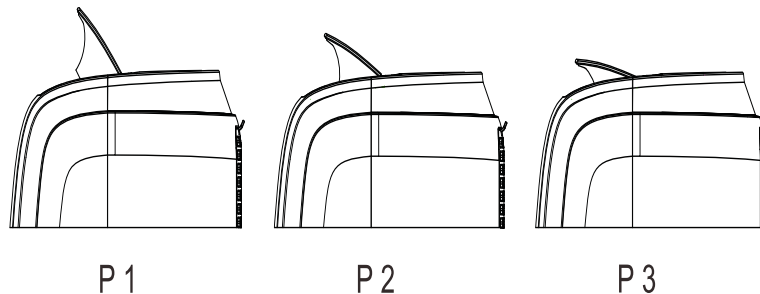

Fig. 4
Adjust the air flow direction automatically (Fig. 4):
- The louver can be adjusted automatically, to change the airflow direction. (Fig.4)
- For small amounts of water, remove the drain plug and place a pan under the drain outlet as shown in Fig. 4.